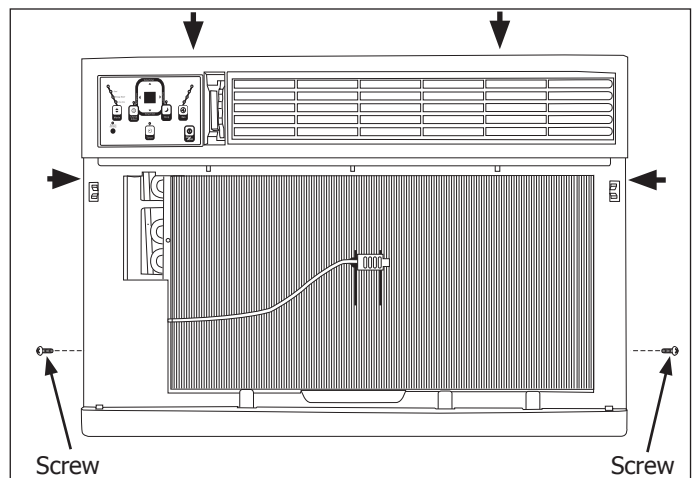

Figure 4-32.
5. Extract the screw from each side of unit securing the front panel to the unit frame. (See Figure 4-32)
6. Remove the front panel by pulling the front panel outer edges away from the unit frame until the tabs are free of the slots. (See Figure 4-32, Arrows show tab locations) Release the side tabs first then lift the front panel upwards until the front panel is free.